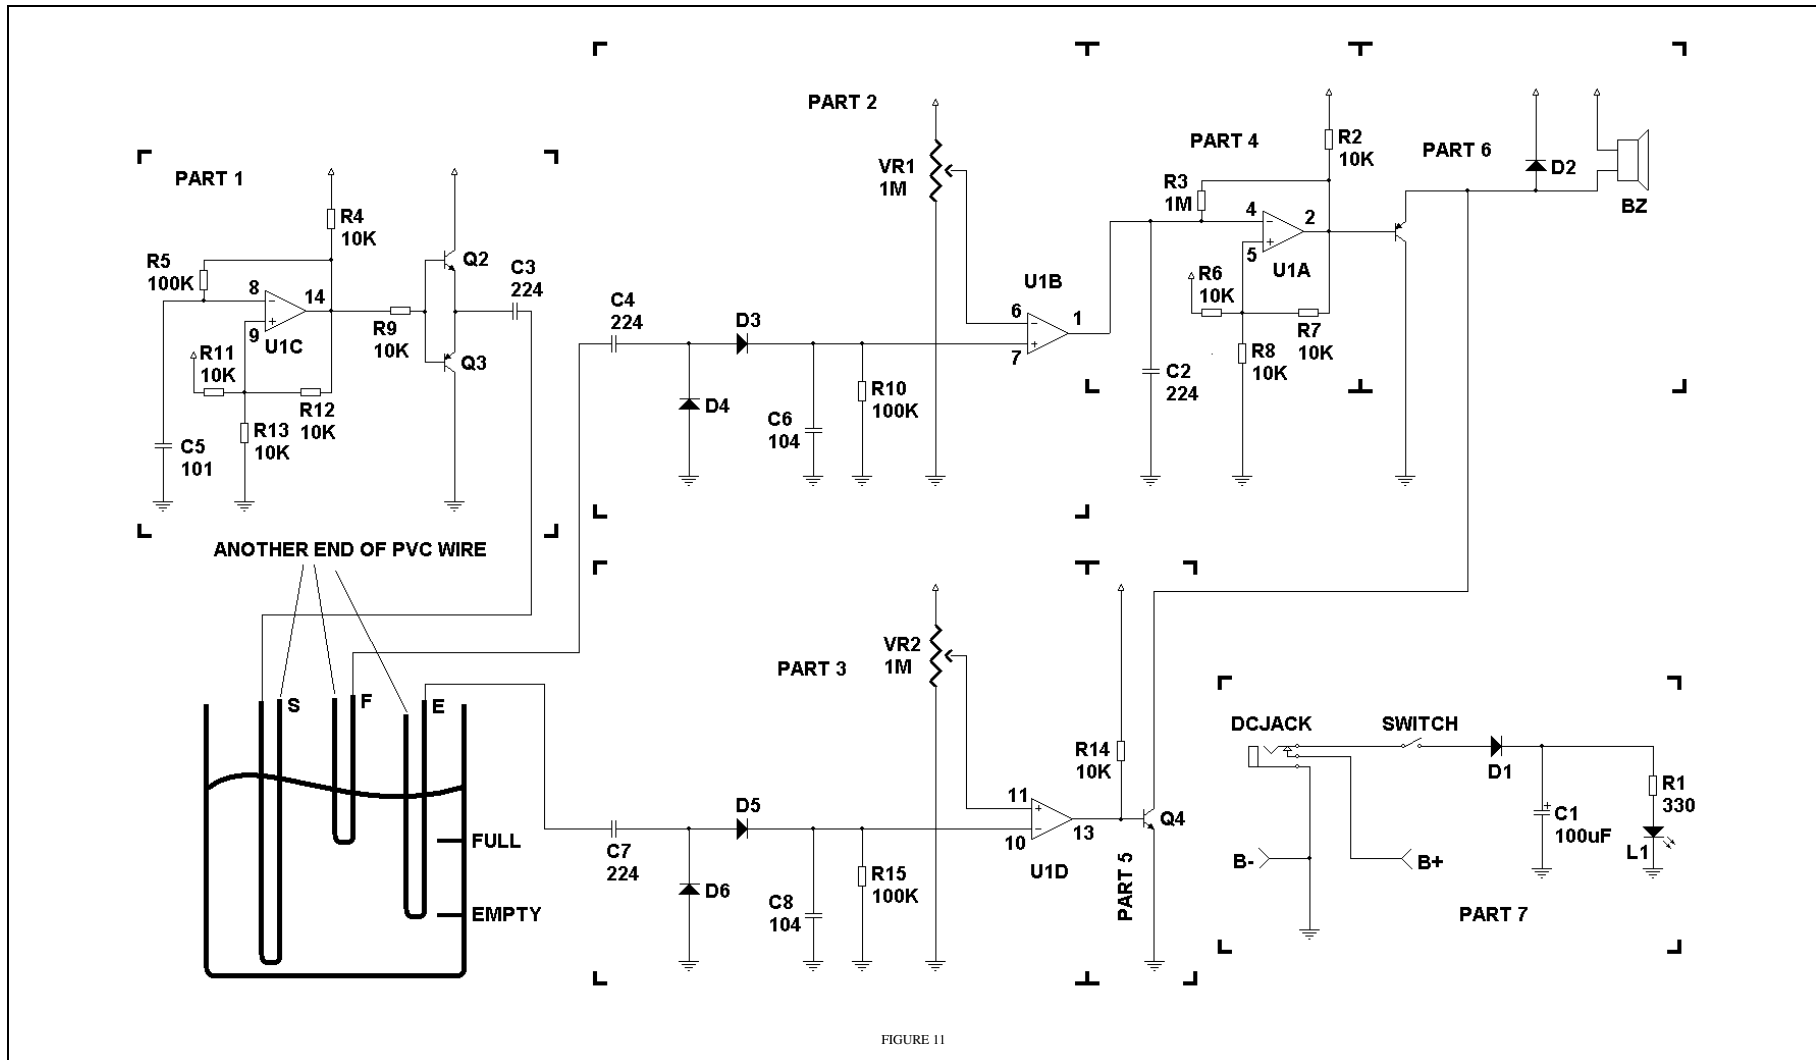

FIGURE 11
Please read the below together with the circuit diagram in Figure 11.
Before learning of this circuit, you can see Figure 11 that the position of wire "S" (Source) is the almost at bottom of container. "E" (EMPTY) is little higher than "S". "F" (FULL) is almost at the top of container. The PVC outer skin of PVC wire does not need to be taken away before putting this into water for detection (I would explain in below how the plastic can conduct electricity).
- After you have installed the PVC wire into water like Figure 11, you need to adjust the VR1 and VR2 into working condition. Now I assume you use water as the liquid you want to measure. Put the water until this cover S and E. Turn VR2 until you hear the buzzer is from "ON" to just "OFF". Now put more water to the container until this cover all, "S", "E" and "F". Turn VR1 until you hear "BEEPING" of buzzer. Now the adjustment is finished.